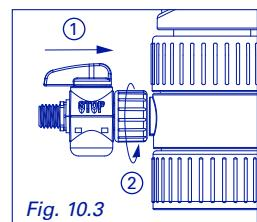

Fig. 10.3
② Mount stopcock on dispenser (Fig. 10.3)
② Monter le robinet (Fig. 10.3)